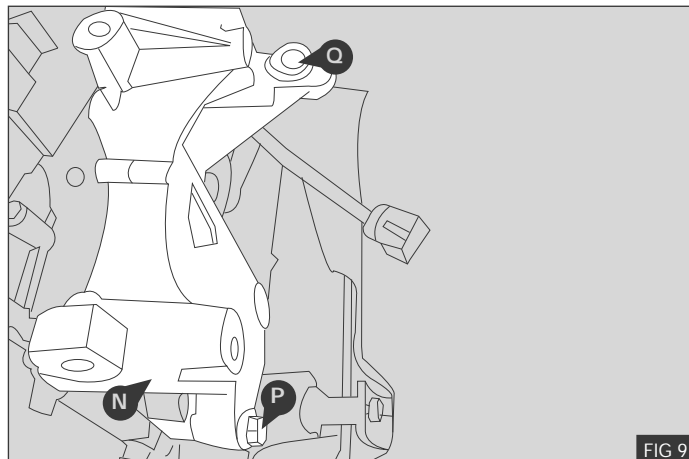

FIG 9
9. Remove the OE mount bracket  and retain 3 of the 5 OE M10 x 45 bolts  for use later.- Fig 9.
10. Remove the sliding bush  from the OE mount bracket  for use later - Fig 9